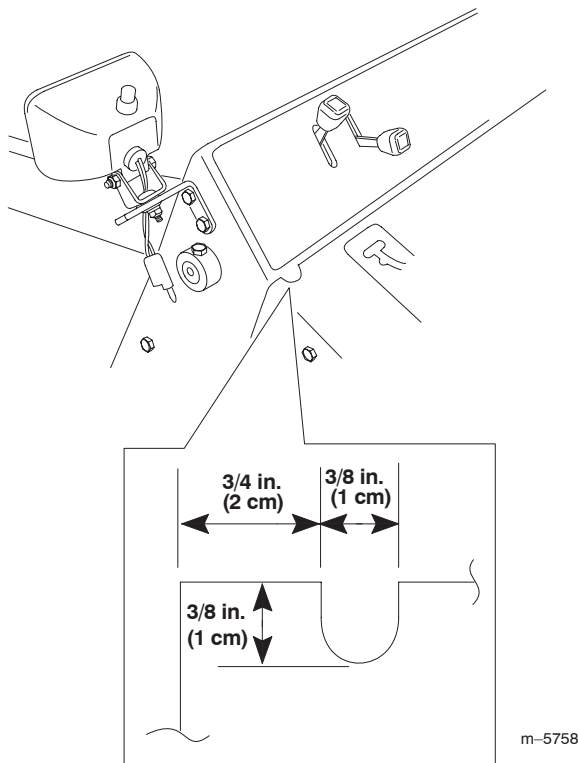

Figure 9
2. Cut a slot in each cover 3/8 in. (1 cm) deep, 3/8 in. (1 cm) wide, and 3/4 in. (2 cm) from the edge of the cover as illustrated in Figure 9.